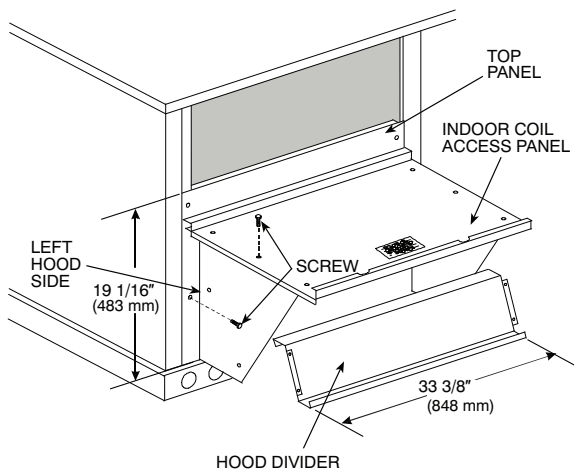

Fig. 18 — Economizer Hood Construction
2. Swing out indoor coil access panel and insert the hood sides under the panel (hood top). Use the screws provided to attach the hood sides to the hood top. Use screws provided to attach the hood sides to the unit. See Fig. 18.
4. Insert the hood divider between the hood sides (see Fig. 18 and 19). Secure hood divider with 2 screws on each hood side. The hood divider is also used as the bottom filter rack for the aluminum filter.